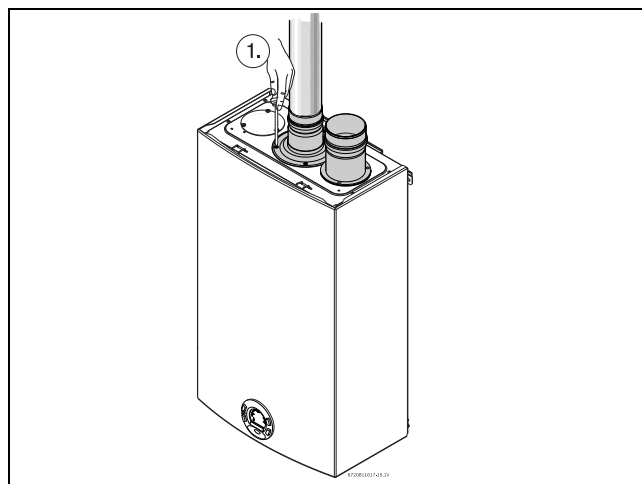

Fig. 17 Exhaust connection
- Attach the flue gas exhaust accessory to the top of the unit fig. 17 (position 1) using the 4 screws and gasket provided, and fully insert vent pipe into the accessory.